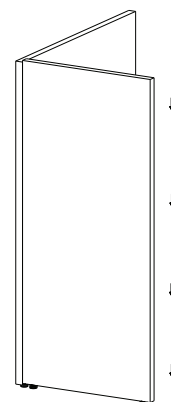

Fig. 8
13. Stand the return gallery panels up, align the panels to one another and press downward to seat until the top plane of both panels are even. (**Fig. 8**)